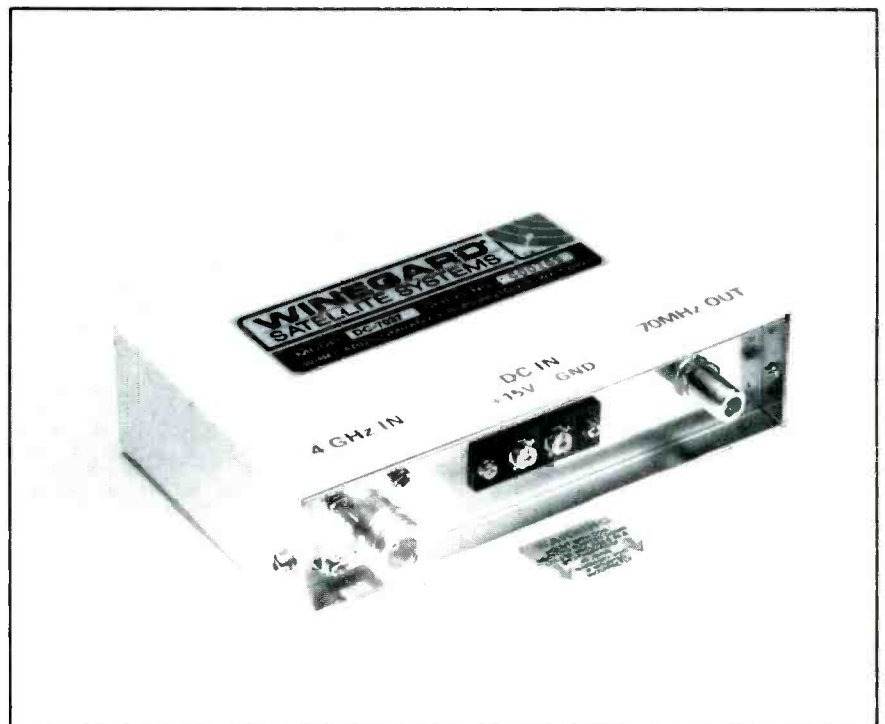

Figure 5. Voltage tunable, single-channel downconverter showing input (4GHz) and output (70MHz) connectors plus dc power cable connections.
9. Refer to Figure 5. With a pure sinewave input to a differentiating circuit, the output should have a waveform like the one shown in